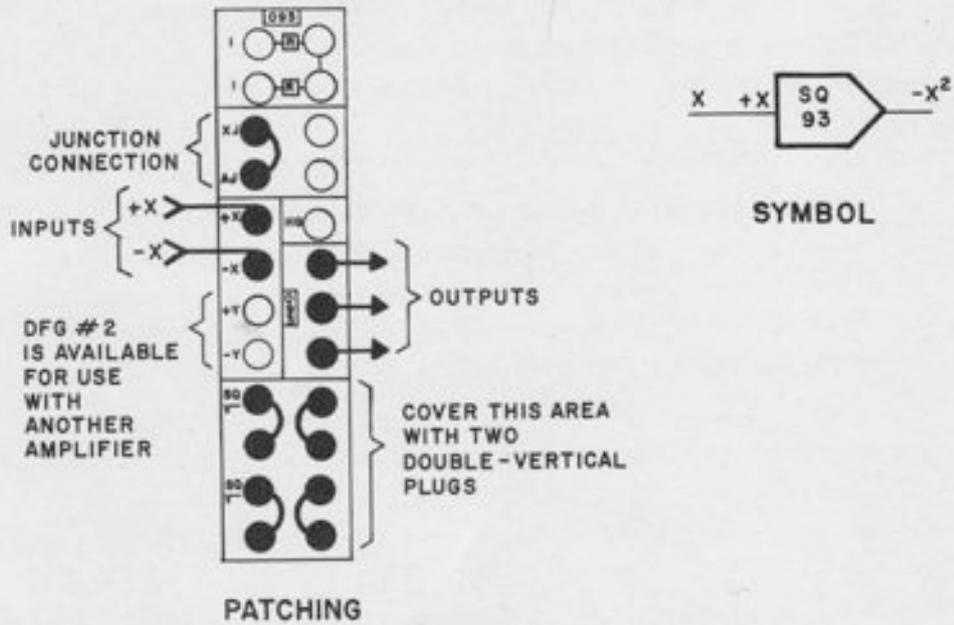

Figure A1.27. Squaring with DFG 1 and Associated Amplifier
These conventions are illustrated in Figures A1.27 and A1.28 for DFG 1. DFG 2 may be used similarly, either with the associated amplifier or another amplifier. In any case, the amplifier output is $+Y^2$. Note that DFG 1 and DFG 2 produce outputs of opposite polarities. It is *not* possible to change the polarity of the output of either DFG by interchanging the \pm inputs.
3. Variables of One Sign Only. The circuits in Figures A1.27 and A1.28 work for both signs of x and y ; i. e., the output is correct for $-1 \leq x \leq +1$ and $-1 \leq y \leq +1$. However, if an input does not change sign, it is possible to eliminate an inverter in these circuits, as follows: